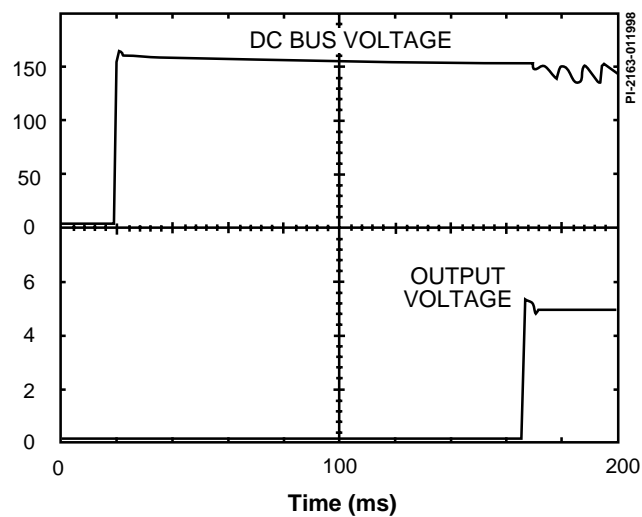

Figure 12. Turn On Delay
**Power Supply Turn On Sequence** – The internal switched, high-voltage current source provides the initial bias current for *TOPSwitch* when power is first applied. The waveforms shown in Figure 12 illustrate the relationship between the high-voltage DC bus and the 12 V output voltage. Capacitor C1 charges to the peak of the AC input voltage before *TOPSwitch* turns on. The delay of 150 ms (typical) is caused by the time required to charge the auto-restart capacitor C5 to 5.8 V. At this point the power supply turns on as shown.